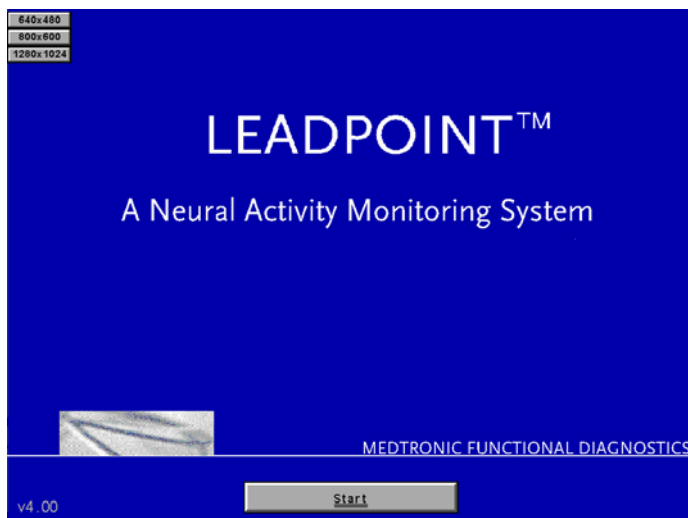

Figure 59 The Start Page of Leadpoint™
- Double-click the Leadpoint™ icon on your Windows desktop. The program will perform a swift self test, before displaying the Start Page, see Figure 59 below:
- Click on the Start Page, and the *Patient Data Window* appears see Figure 59 above.